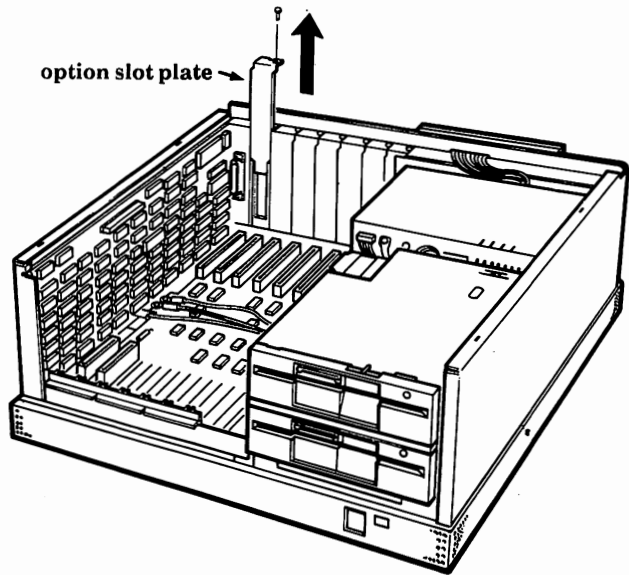

Figure 2-3. Location for memory board
4. Remove the screw and the option slot plate and set them aside. See Fig. 2-3.